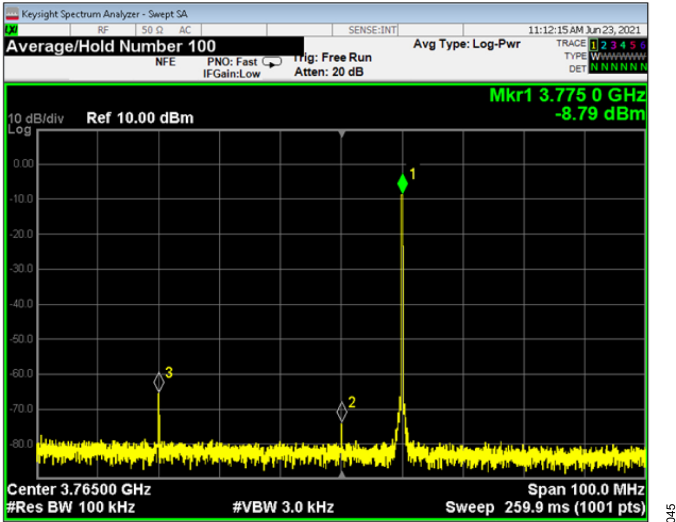

Figure 45. Tx0 Single Tone Spectrum as Captured by a Spectrum Analyzer
- ▶ For profiles with CDUC or CDDC enabled, users can map a specific vector to each carrier as shown in Figure 45.
13. **Play** transmitter data continuously over JESD to update the waveform and fast Fourier transform (FFT) plots to preview the loaded vectors. The transmitter RF output can then be captured using a spectrum analyzer as shown in Figure 45.